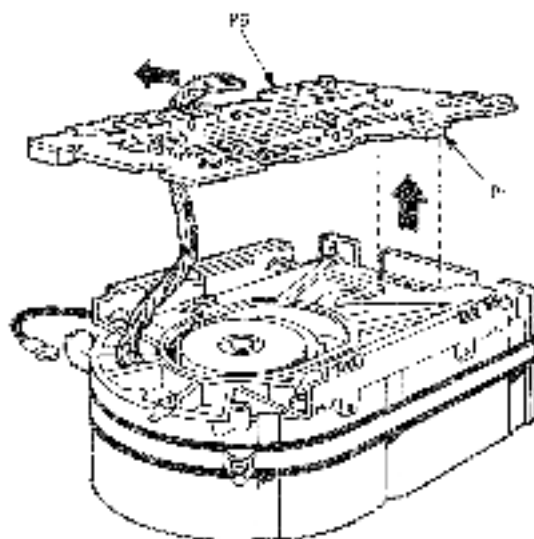

Figure 10-13 Main Printed Circuit Board Removal
- a. Lift the MPCB straight up until it clears the chassis. This disconnects P4, a 12-pin fixed plug (Figure 10-13).